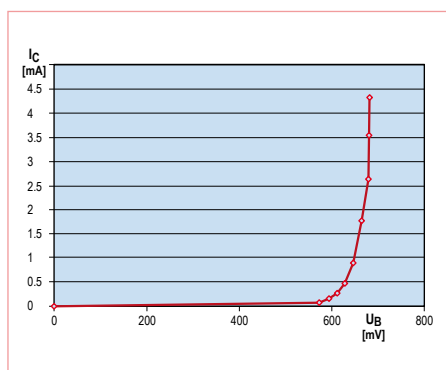
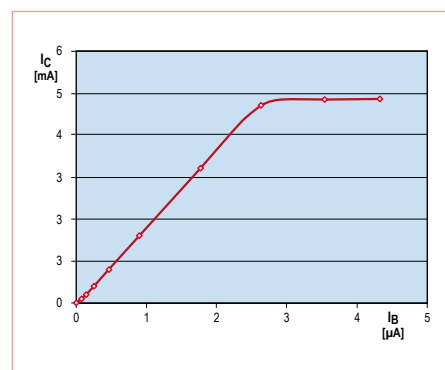

Figure 2. Base current versus base-emitter voltage.
Figure 3. Collector current as a function of base current.
Figure 2. Platino within Arduino. The right-hand bottom corner shows which board is being targeted. The Platino object is invoked at the beginning of the sketch (in the centre of the screenshot).
Figure 3. The test sketch from Figure 2 running on Platino. The value in the lower l/h corner (302) is controlled by the rotary encoder at the right; the timer in the upper r/h corner can be reset with the pushbutton on the left.
True, just invoking the Platino class will set you back some 2.5 KB of program memory, but it greatly lessens your programming effort. To invoke it simply write at the top of your sketch (figure 2):
Figure 2 (I_C versus U_B) shows the typical exponential curve of a silicon diode. On the linear scale you see a breakpoint at approximately 0.6 V. Above this level the slope of the current curve keeps rising (exponential curve). The measurement data shows that no measurable base current flows at a base voltage of (for example) 400 V, so there is
Figure 3 (I_C versus I_B) shows that the collector current increases linearly with the base current (in the first approximation) until it stops rising at just under 5 mA, which is called the saturation point of the transistor. In any case it isn't possible to measure more than 5 mA with this circuit because the collector resistor limits the current to 5 mA ($5 \text{ V} \div 1 \text{ k}\Omega = 5 \text{ mA}$). You can also clearly see that even this 5 mA limit cannot be reached. The transistor is driven fully into conduction ('hard on'), with a residual collector–emitter voltage of slightly less than 0.1 V.